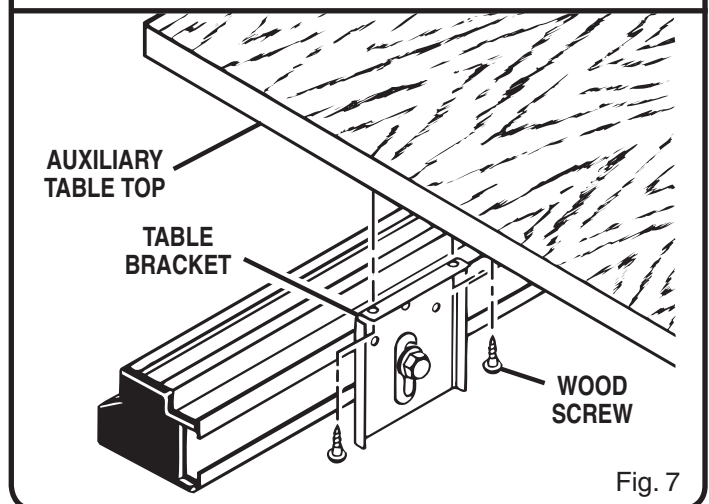

Fig. 7
- Reposition table top on table brackets and secure with wood screws (#10 x 5/8 in.) provided. See Figure 7.